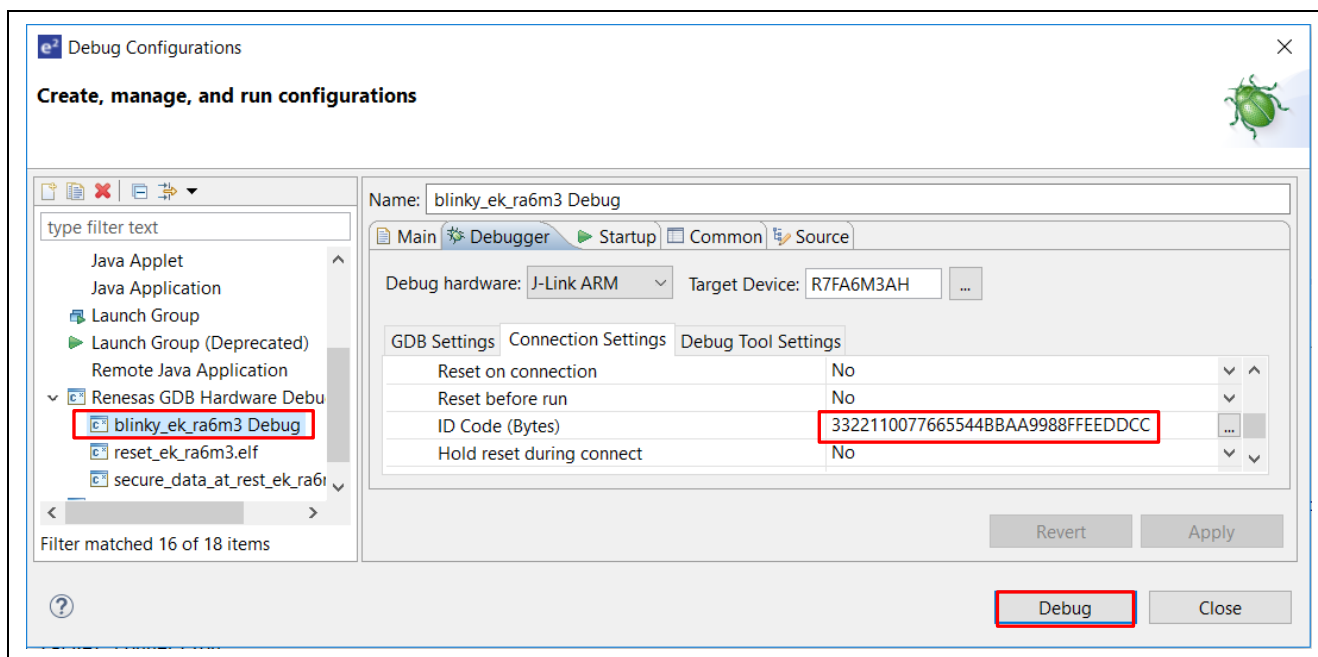

Figure 55. Setup matching ID code in debug configuration
Step 12: Reset the OSIS ID for the debugger configuration to all FFs (see Figure 55) and confirm the debugging works.